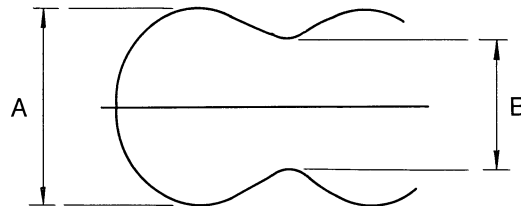

Figure 4-17. Modulation Check Waveform Diagram
- (1) Seek to track 79, then write and read using 2F and the inspection disk.
- (2) Check the read waveform (see step 6 in section 4.5.11).
- (3) Check that $[(A-B)/(A+B)] \times 100 \leq \pm 8$; see the Figure 4-17 for the definitions of A and B.